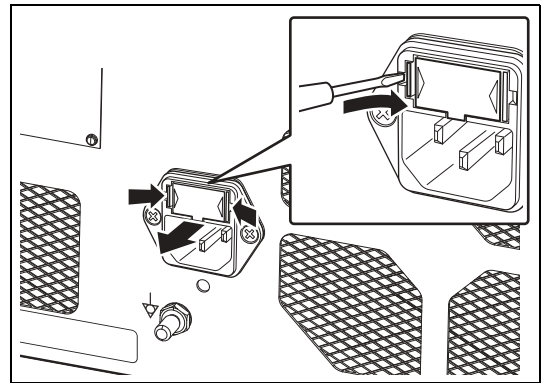

Figure 6.5
- 2 **Insert a screwdriver into the notch on either or both sides of the fuse box immediately above the power inlet socket. (Refer to Figure 6.5.)**